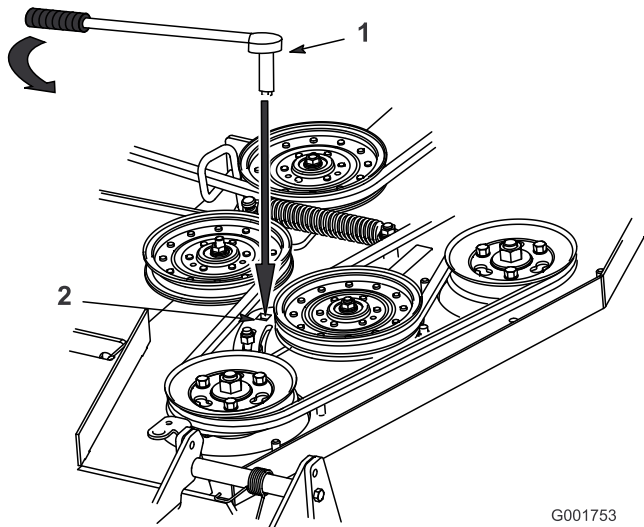

Figure 59
- If adjustment is required, loosen the idler plate to adjust it (Figure 59).
- Insert a ratchet or breaker bar into the square hole in the idler plate to adjust the tension (Figure 59).
- To increase belt tension, rotate the ratchet or breaker bar to move the fixed idler until you feel increased resistance and the spring-loaded idler pulley stops moving (Figure 59).
- While holding the belt tension, tighten the idler plate bolts that secure the idler plate (Figure 59).
- Adjust the belt tension and the idler plate, if necessary, and tighten all hardware securely (Figure 59).